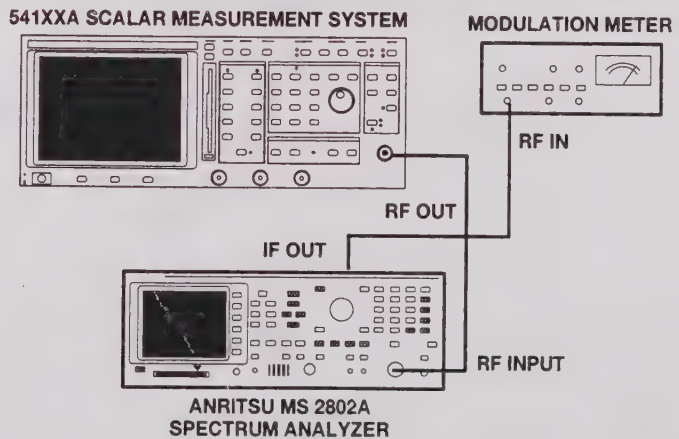

Figure 5-6. Test Setup for CW Frequency Accuracy Test
- Step 1.** Set up the equipment as shown in Figure 5-6, and turn the equipment on.